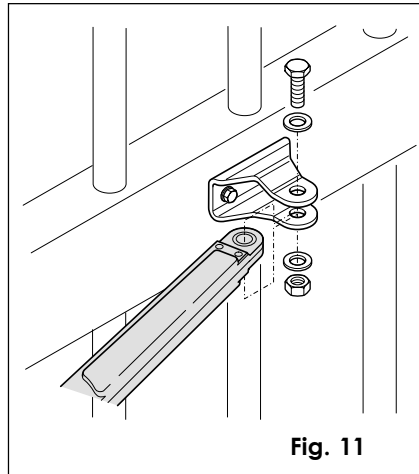

Fig. 11
- Fasten the operator to the front fitting as shown in figure 11.